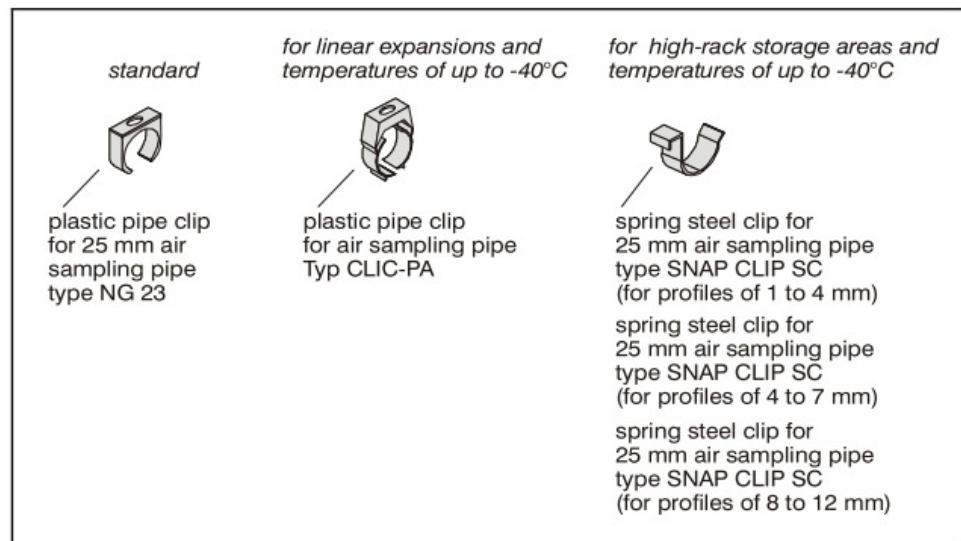

Fig. 6.1: Pipe clip types
**Pipe Clips** For the installation of the pipe system (ø 25 mm) the plastic pipe clips type NG 23 are used as a standard. They do not allow linear expansion so that the plastic pipe clip type CLIC-PA is to be used in areas with high variations in temperature (See fig. 6.1).